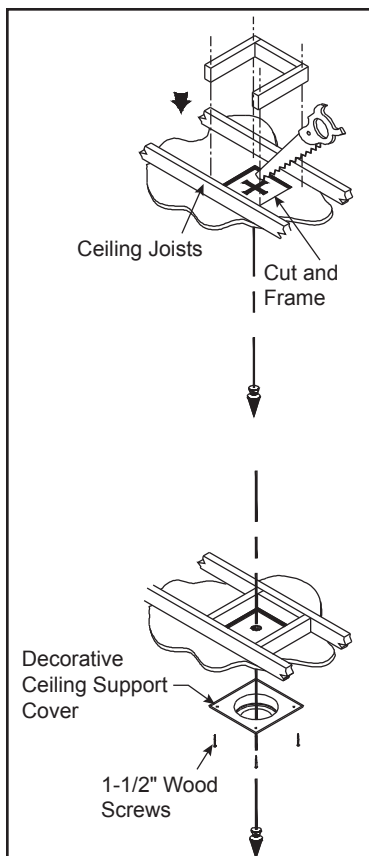

Figure 32
Step 3 - To install the round ceiling support/wall thimble cover in a flat ceiling, cut a 10" x 10" (254 x 254 mm) square hole in the ceiling (unless otherwise specified) centered on the hole drilled in Step 2. Frame the hole as shown in Figure 32.